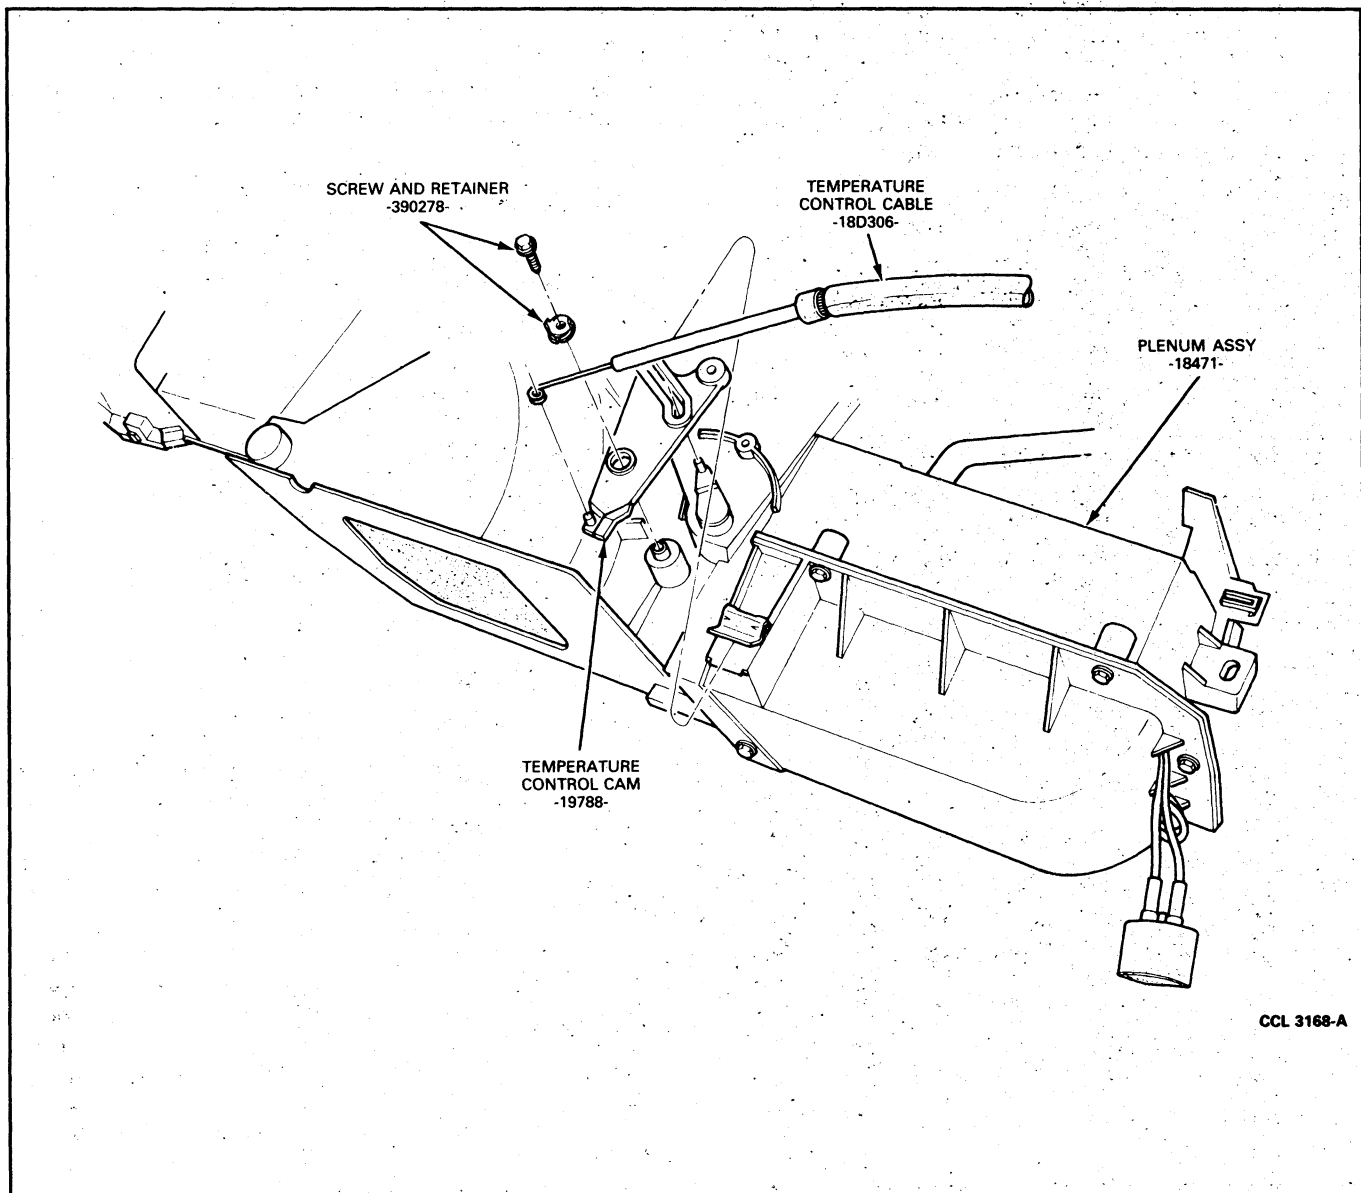

FIG. 5 Temperature (Blend Air Door) Cable Adjustment
4. With cable end attached to temperature door cam, push gently on cable jacket to seat blend door (push until resistance is felt). Install cable into clip by pushing cable jacket into clip from top until it snaps into place (Fig. 5).